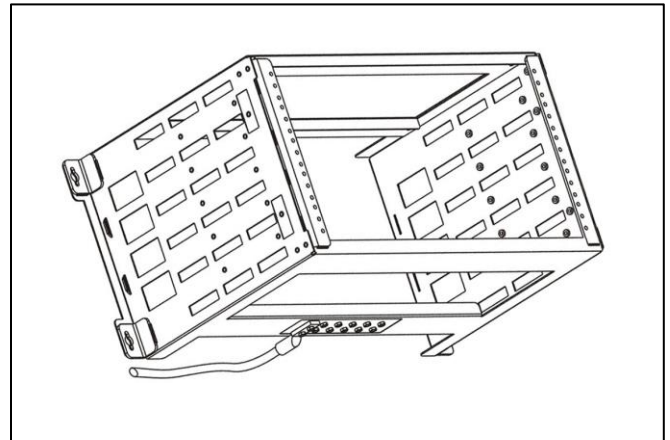

Figure 7. Frame grounding example
- ⑤ Before attempting to fasten the mounting frame to the wall, insert a screw into the top pilot hole on either the left or right side. Partially thread the screw into the hole, leaving the screw head approximately 1/4" from the surface.
- ⑥ Hold the mounting frame against the wall while resting the cutout of the bracket on the installed screw. Align the other three mounting holes and install a screw in each hole. Tighten all four (4) screws securely.
- ① Locate the six (6) pairs of pre-installed grounding screws with lock washers on the crossbar of the frame. The grounding screws are 10-32 x 3/8" on 5/8" centers.
- ② Install a dual ground lug (customer provided) with holes on 5/8" centers beneath the included screws and washers on one pair of grounding holes. Tighten the screws to fasten the lug to the mounting frame. The example in Figure 7 illustrates the frame positioned with grounding screws facing downward.
- ③ Connect a ground wire of appropriate gauge to the ground lug and attach the other end of the wire to a bonded ground point, per local procedures for network equipment.
- ① Install rack equipment with 19" hole spacing by carefully sliding the chassis through the front of the WR-5UI2 and aligning chassis mounting ears with the threaded holes in the rails of the WR-5UI2 frame. Insert and tighten #12-24 machine screws (customer